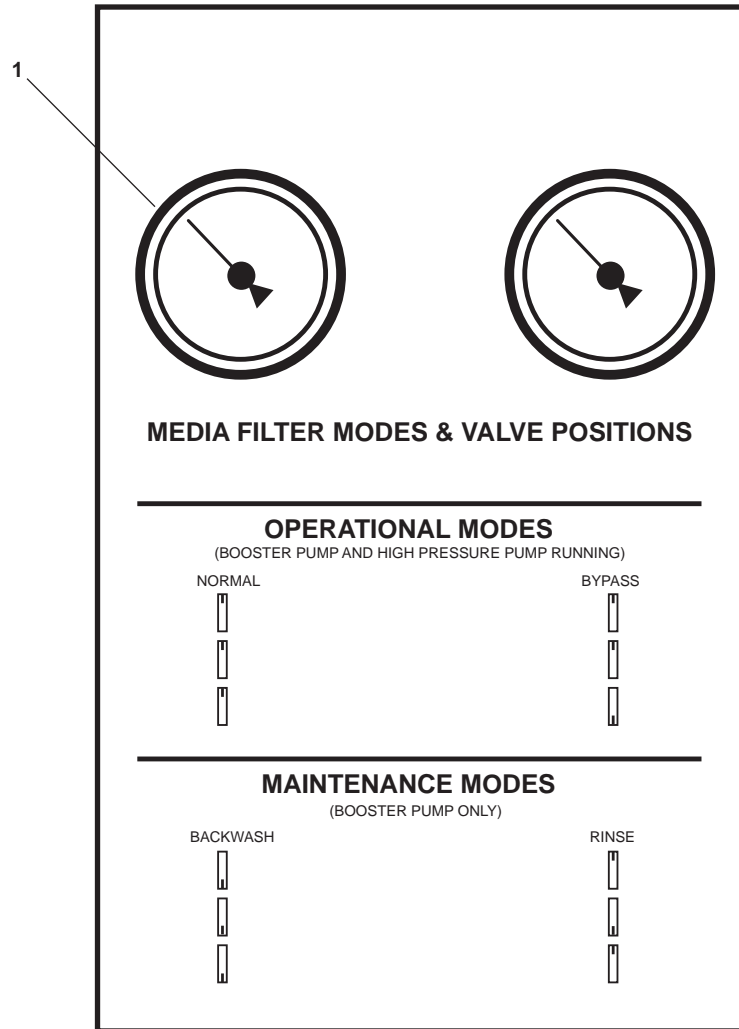

**Figure 2. ROWPU System Pressure Regulator Valve**
1. Remove the protective cap (figure 2, item 1) from the pressure regulator valve (figure 2, item 2).
2. Loosen the locking nut (figure 2, item 3) on the pressure regulator valve (figure 2, item 2).
4. Turn the adjustment screw (figure 2, item 4) clockwise to increase system pressure or counterclockwise to decrease system pressure as indicated on the media filter INLET PRESSURE gauge RO-PG-2 (figure 3, item 1).
1. Tighten the locknut (figure 2, item 3) on the pressure regulator valve (figure 2, item 2).
4. Install the protective cap (figure 2, item 1) on the pressure regulator valve (figure 2, item 2).